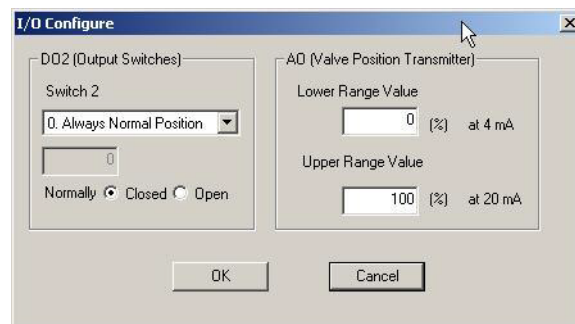

Figure 60 I/O Configure
This procedure gives an example, using the settings in Figure 60, to see if a switch is operating:
1. Click the **Configure** tab, click and Figure 60 appears.